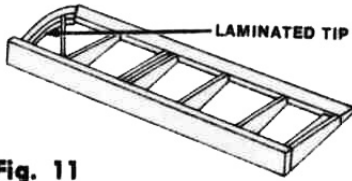
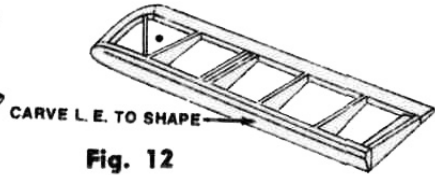

Fig. 11
Fig. 12
40. All four ailerons are identical—except of course that two are left and two are right. Laminate each tip from two W-12 pieces. Construct flat on plan as in Figure 11. When dry, carve and sand L. E. and tips to correct section: see Figure 12.